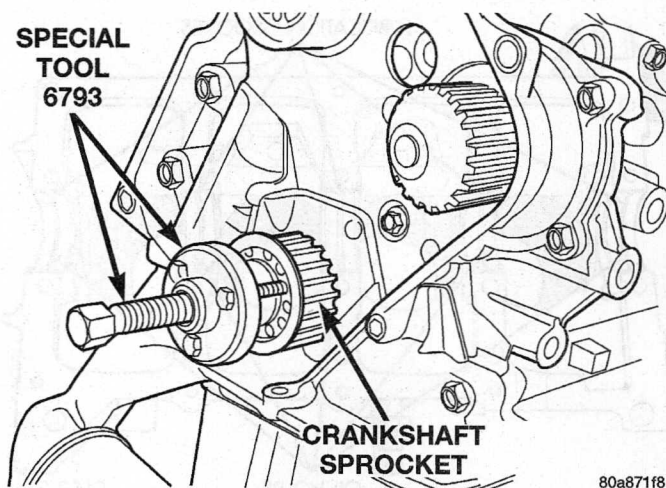
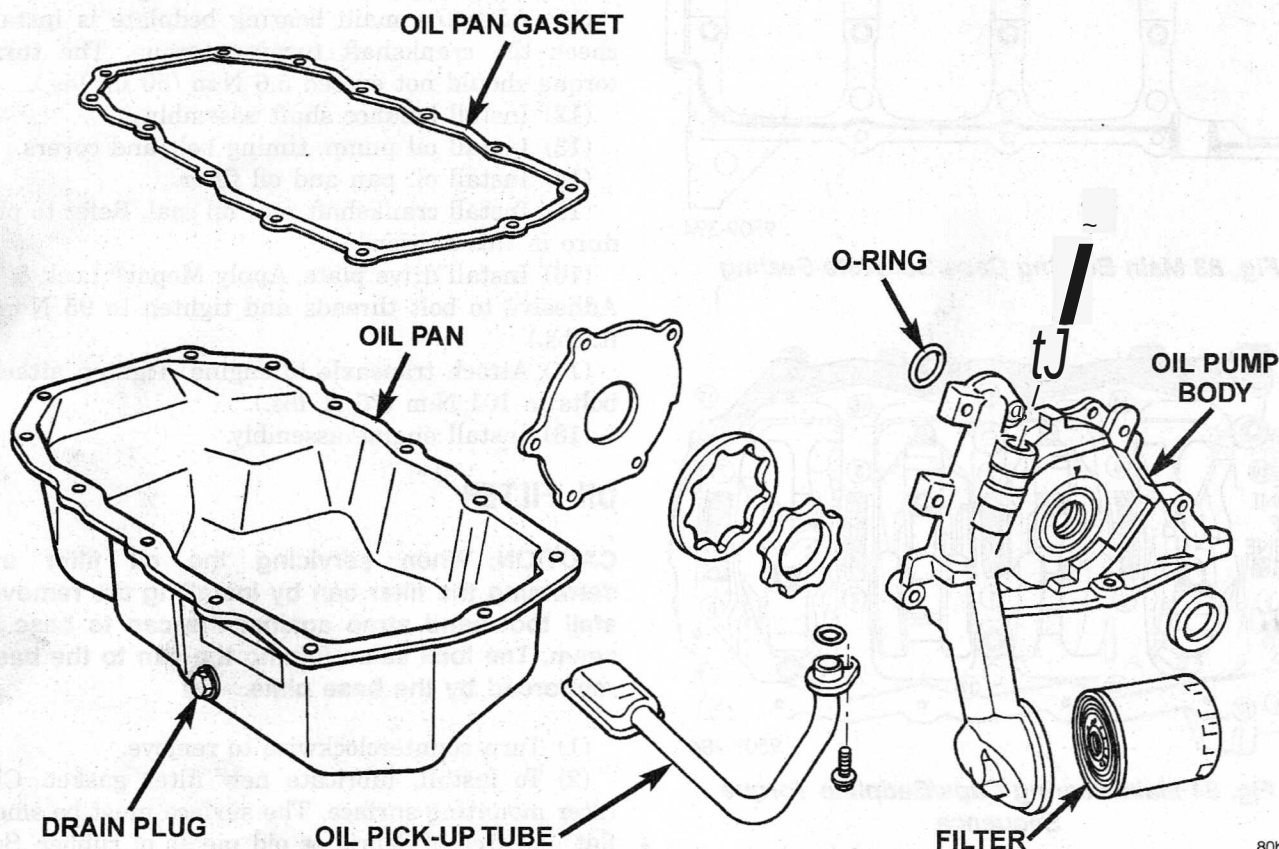

Fig. 85 Crankshaft Sprocket-Removal
Fig. 86 Oil Pump and Pick-up Tube
- (1) Disconnect negative cable from battery.
- (2) Remove Timing Belt. Refer to procedure in this section.
- (3) Remove Oil Pan. Refer to procedure in this section.
- (4) Remove Crankshaft Sprocket using Special Tool 6793 and insert C-4685-C2 (Fig. 85).
- (5) Remove oil pick-up tube.
- (6) Remove oil pump, (Fig. 86) and front crankshaft seal.